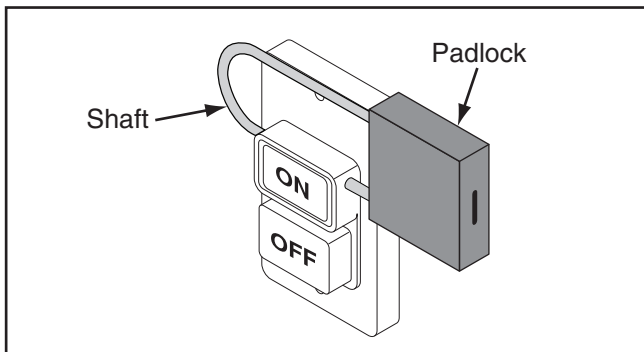

Figure 27. Switch disabling padlock inserted into ON button.
5. Insert a switch disabling padlock (sold separately) through the green ON button, as shown in **Figure 27**.